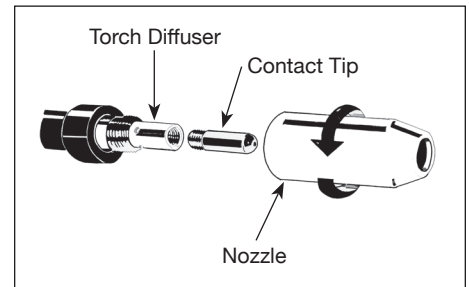

Figure 5 - Torch Nozzle
- b. Wire matches contact tip in end of torch (See Figure 5).
7. Unscrew nozzle and contact tip from end of welding torch (See Figure 5). Plug welder into a proper power supply receptacle.
9. Carefully slip contact tip over wire, screw tip into torch end and reinstall nozzle (See Figure 5). Cut wire off approximately 1/4 inch from nozzle end.